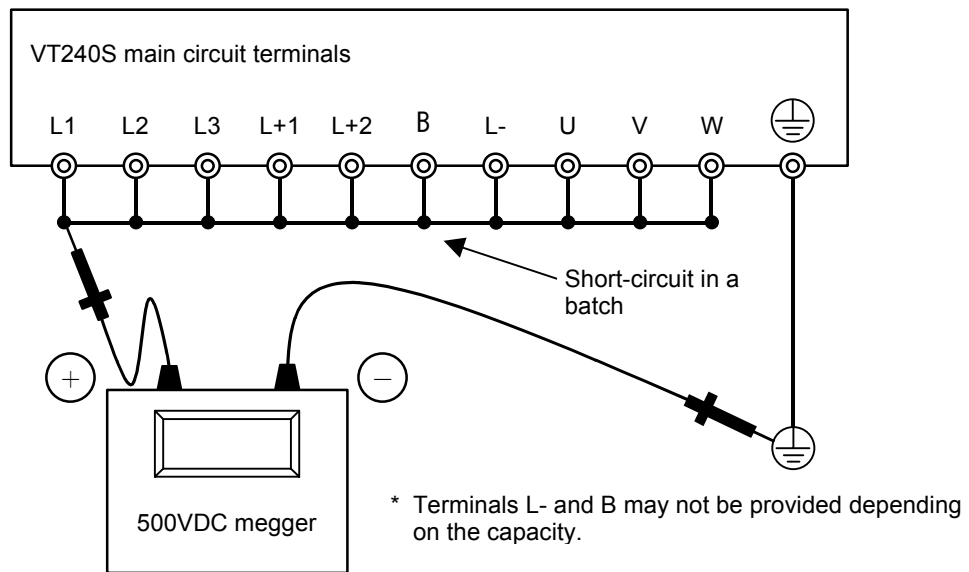

Fig. 8-1 Main circuit megger test
- 2) Short-circuit the main circuit terminals in a batch as shown in Fig. 8-1. If the unit capacity does not have an L- terminal, add the main circuit electrolytic capacitor negative pole to the batch short-circuit.